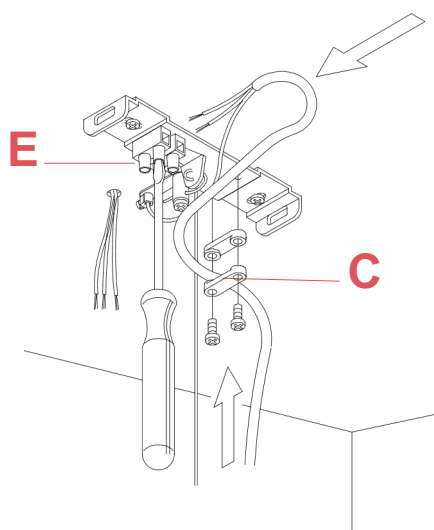

Fig.4
Mount the cable-block (C) and carry out the wiring to the terminal block (E).(Fig.4)